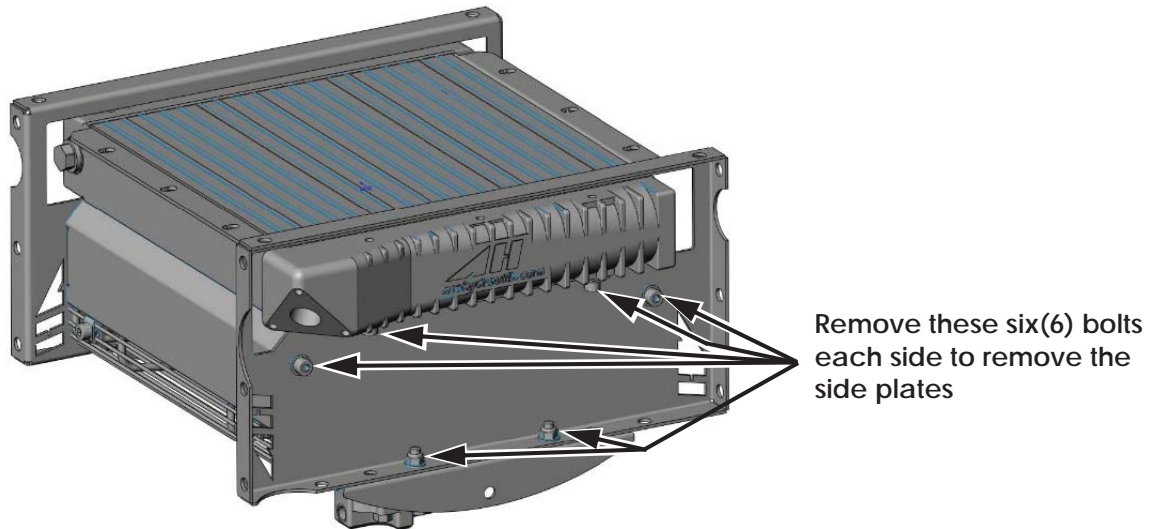

Figure 2: Remove Six (6) Bolts Each Side
1. Remove both side plates from the cooler as shown in Figure 2 below.